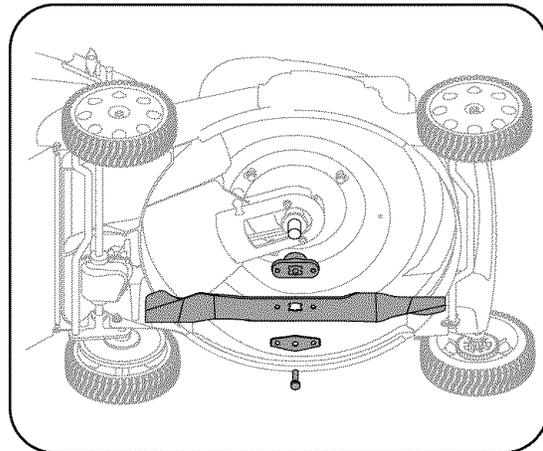

Figure 15
2. Remove bolt, blade bell support, blade, and blade adapter from the engine crankshaft. See Figure 15.